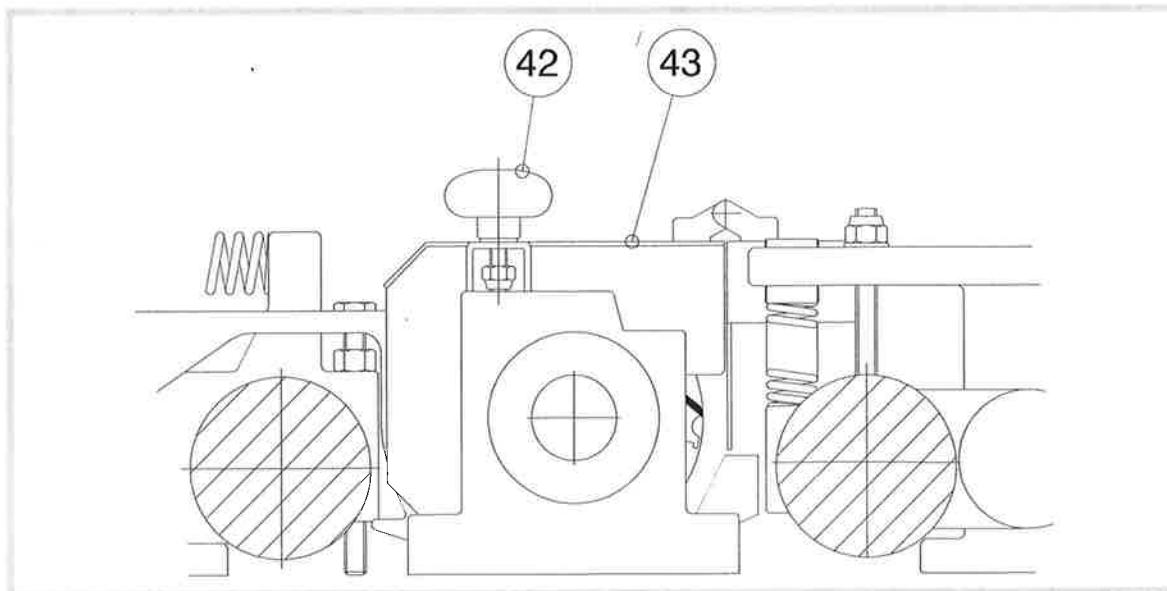

Fig. 19: Plane shaft guard
For adjusting the knives, (Fig. 19) follow the instructions below:
- b) loosen the knob (42) and open the guard of the plane shaft (43) (Fig. 19);
- c) rotate the spindle manually in the correct position, holding the brake release push button (7) pressed;
- b) loosen the knob (42) and open the guard of the plane shaft (43);
- d) position the knife adjusting tools (39) as indicated and at the ends of the plane shaft;
- e) loosen the screws (37) of the gib (38), in this way the knife (40) will be pushed against the tools (39) by the springs (41) located in the suitable seats on the shaft;